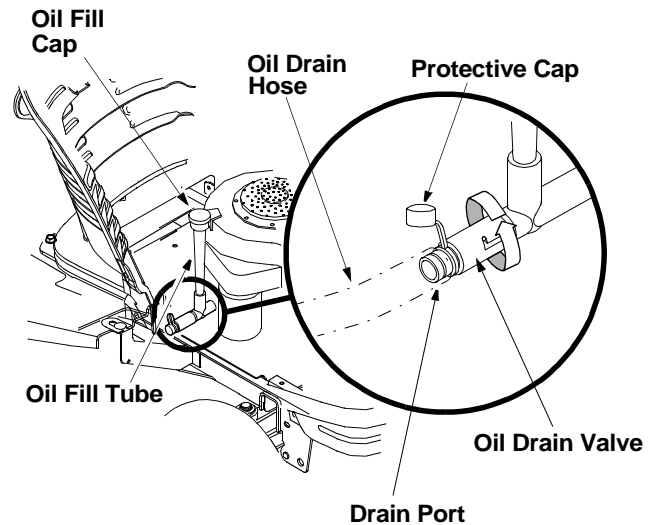

Figure 10
- Unscrew oil fill cap and remove dipstick from the oil fill tube. See Figure 10 .
- Pop open the protective cap on the end of the oil drain valve to expose the drain port. See Figure 10 .
- Push the oil drain valve in slightly, then rotate counter-clockwise and pull outward to begin draining oil. See Figure 10 .